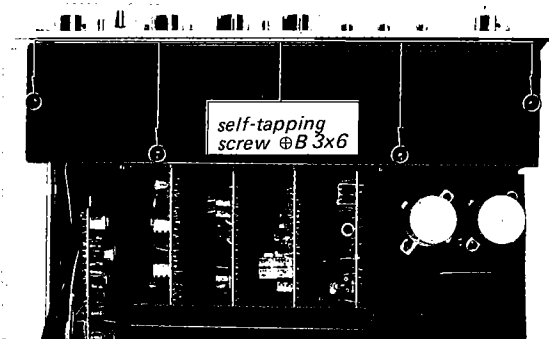

Fig. 2-2. Front subchassis's top cover removal
3. Remove the four self-tapping screws ($\oplus$ B 3x6) securing the front subchassis's top cover and lift off it. See Fig. 2-2.